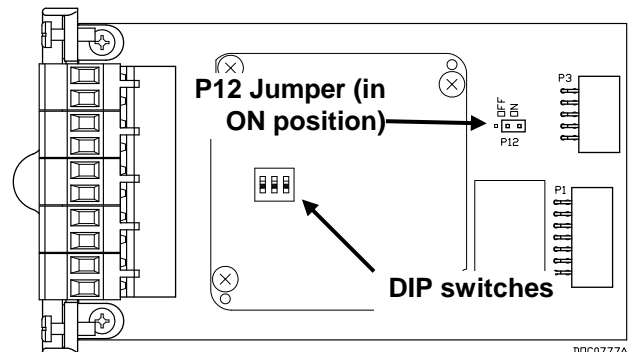

Figure 7. P12 Jumper on H1 PWR Module
5. Position the module as shown in Figure 7.